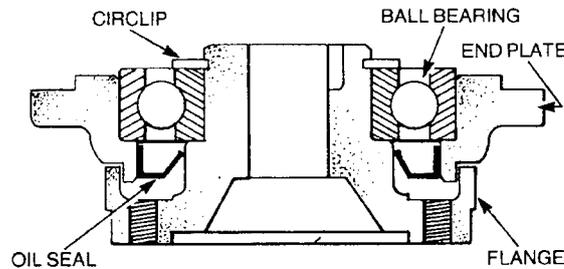

Figure 198 Removing the Winch Drive Flange, Bearing and Oil Seal
- i. Remove the external circlip retaining the ball bearing on the winch drive flange and, while supporting the end-plate, press the flange off the bearing (Figure 198).
- j. Support the end plate and press out the ball bearing and oil seal (Figure 198).